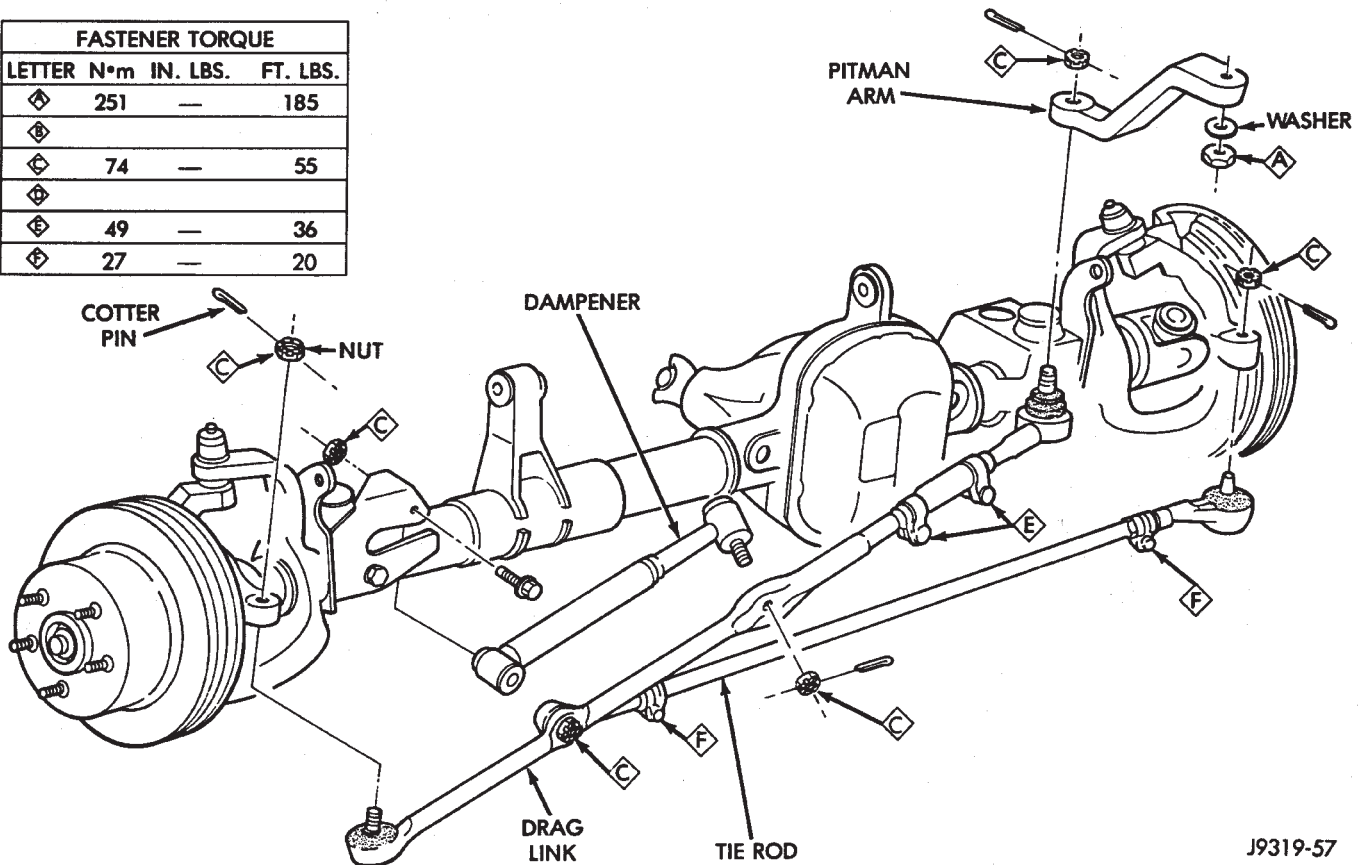

Fig. 3 Steering Linkage
(1) Start the engine and turn wheels both ways before straightening the wheels. Secure the steering wheel with the front wheels in the straight-ahead position.
- (2) Loosen the adjustment sleeve clamp bolts (Fig. 3).
- (3) Adjust the right wheel toe position with the drag link. Turn the sleeve until the right wheel is at the 0.12 degrees (0.12°) TOE-IN position. Position the